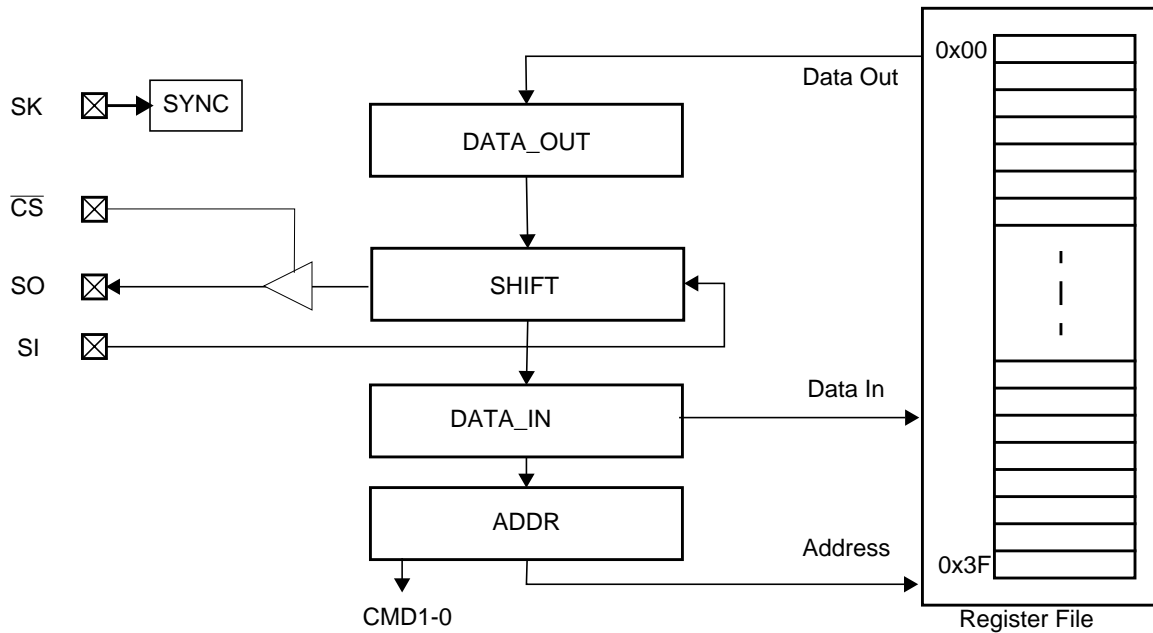

Figure 14. MICROWIRE/PLUS Interface Block Diagram
The MICROWIRE/PLUS interface allows the USBN9603 to function as a CPU or microcontroller peripheral via a serial interface. This mode is selected by pulling the MODE1 pin high and the MODE0 pin low. The MICROWIRE/PLUS mode uses the chip select (\overline{CS}), serial clock (SK), serial data in (SI) and serial data out (SO) pins, as shown in Figure 14.